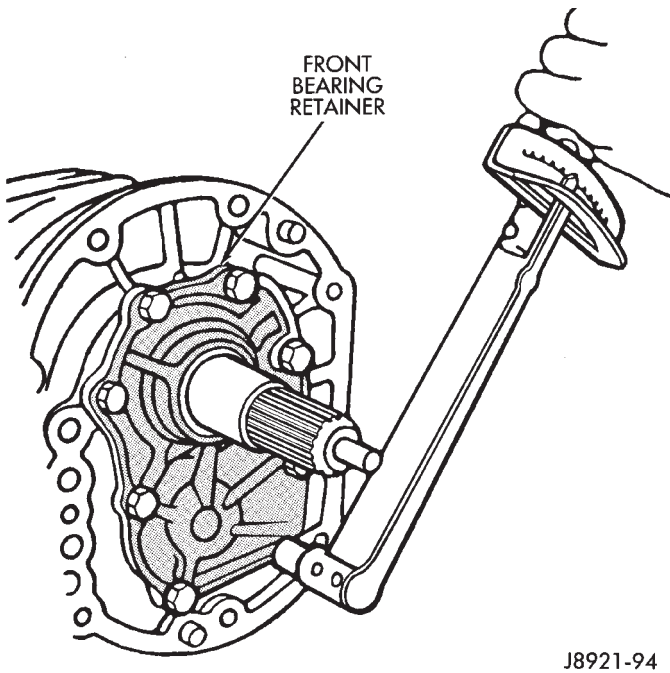

Fig. 87 Installing Front Bearing Retainer
(5) Install new gasket on front bearing retainer and install retainer on case (Fig. 87).